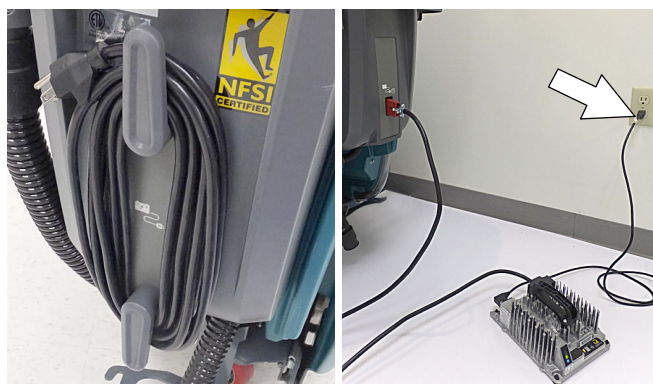

FIG. 110
6. After charging batteries unplug the power supply cord and wrap cord around the cord hooks (Figure 110).
For models equipped with an off-board charger, always disconnect the AC power supply cord first before disconnecting charger from machine (Figure 110).